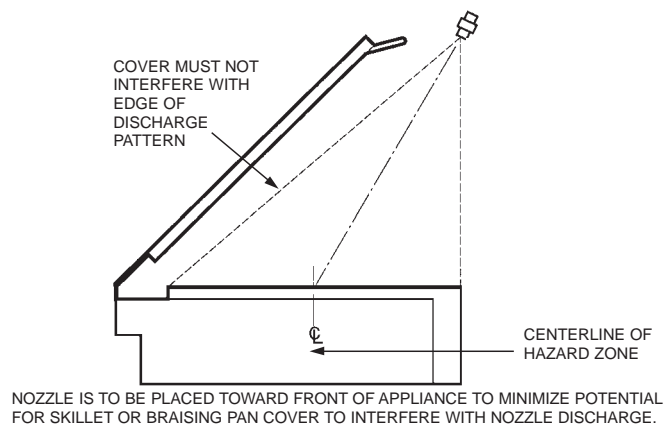

FIGURE 1
* See Figure 1 for nozzle location
- NOTE: The centerline of the hazard zone or aimline cannot exceed 16 in. (406 mm) from either the front or back edge of the zone. (Exception: Fryer, griddle, gas radiant, or electric charbroiler; see chart in Figure 1).